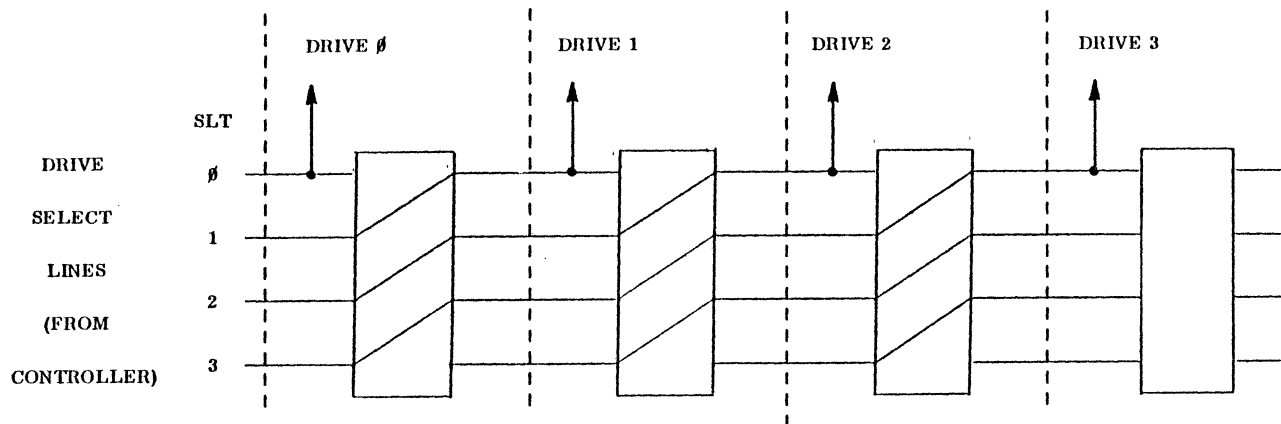
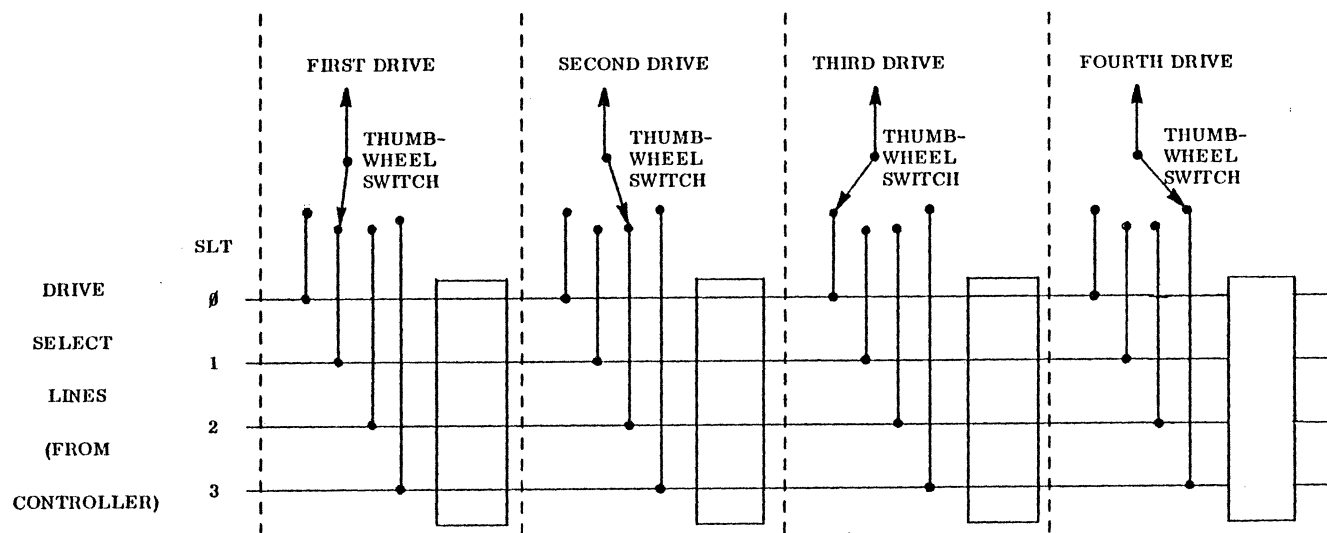

Figure 4-7 Standard Drive Select Logic
Figure 4-8 Drive Select Logic Using Select Switches
4.22 Three kinds of jumper plugs are used: One is for standard drives, one is for drives with drive selection thumbwheel switches, and one is installed in the fourth drive in installations using thumbwheel switches. A standard daisy-chained system is shown in Figure 4-7 where SLT 0 connects to drive 0, SLT 1 connects to drive 1, etc. Each drive select jumper increments the drive select lines one position so that the next drive in position becomes the next numbered drive. Figure 4-8 illustrates a system using drives with select switches. Four of the select lines are made available to each drive, and the operator selects (with the thumbwheel switch) which select line will activate a particular drive. The operator must ensure that each drive is set to a different number. Caution: A separate installation step is required to connect all four select lines to each drive. Note: Some drive manufacturers mark the thumbwheel switch 1 through 4 for drive selections 0 through 3, respectively, with position 0 sometimes used as an off-line position.